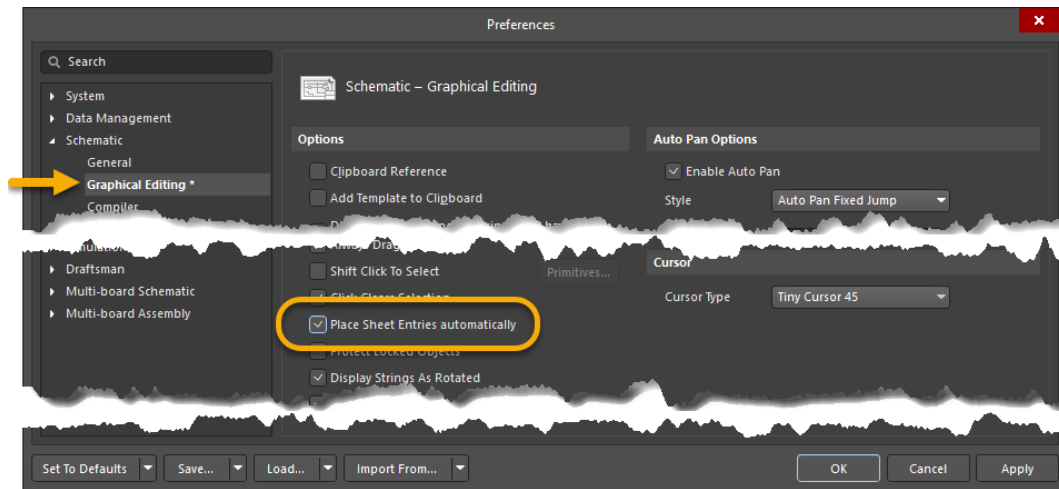

Figure 20. Option to Place Entries
47. Confirm that the option to **Place Sheet Entries automatically** is enabled as shown in Figure 20. This will automatically create the sheet entry after the Harness connection is created on the Top Level sheet.